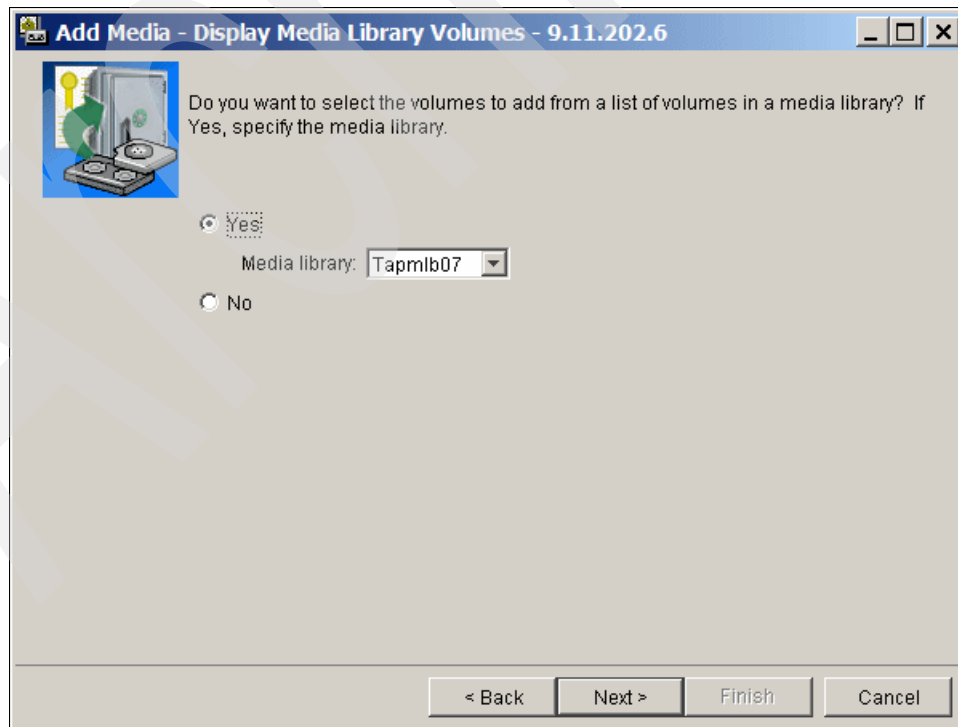

Figure 6-6 Select Tape library to add media from
7. This presents the *Add Media* wizard. On the wizard click **Next**. On the next wizard window, select a tape library from which you want to add media, as in Figure 6-6. Click **Next**.